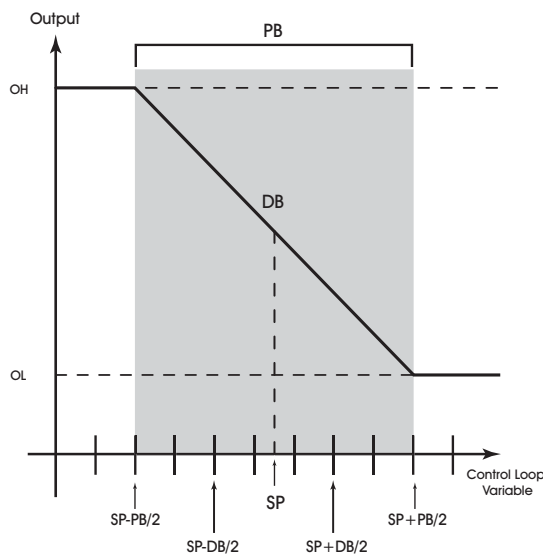
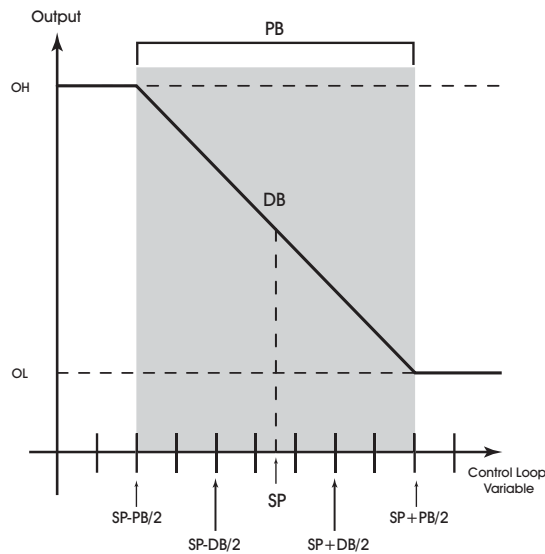

Figure 3-7: Proportional Band for Normal Acting Control ($SG = 0$)
Figure 3-8: Proportional Band for Reverse Acting Control ($SG = 1$)
To determine **PB**, first decide how closely the SBC-GPC2 must control the output to the setpoint. For instance, if the setpoint is 72°F, then an acceptable control range might be within two degrees of the setpoint. This control range can be expressed as a band centered on the setpoint: from 70° to 74°, or 4 degrees—the *proportional band (PB)*. Refer to Figure 3-7 and Figure 3-8.
For normal acting control loops (see Figure 3-7), **PO** is set to maximum output when the input variable equals the setpoint plus half of the proportional band ($CS + PB/2$). The point **PO** is set to minimum output when the input variable equals the setpoint minus half of the proportional band ($CS - PB/2$). These associations are reversed for reverse acting control loops. See Figure 3-8. **PO** will be midway between minimum and maximum output when $MV=CS$.